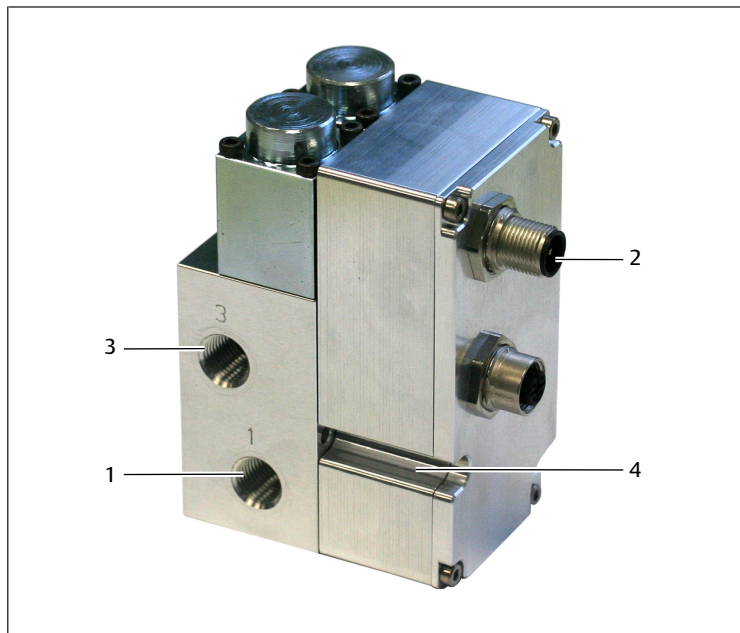

Fig. 1: Pneumatics connection
- ▶ Insert the screw in the through hole in the housing and tighten. See → Fig. 1. Tightening torque: max. 25 Nm